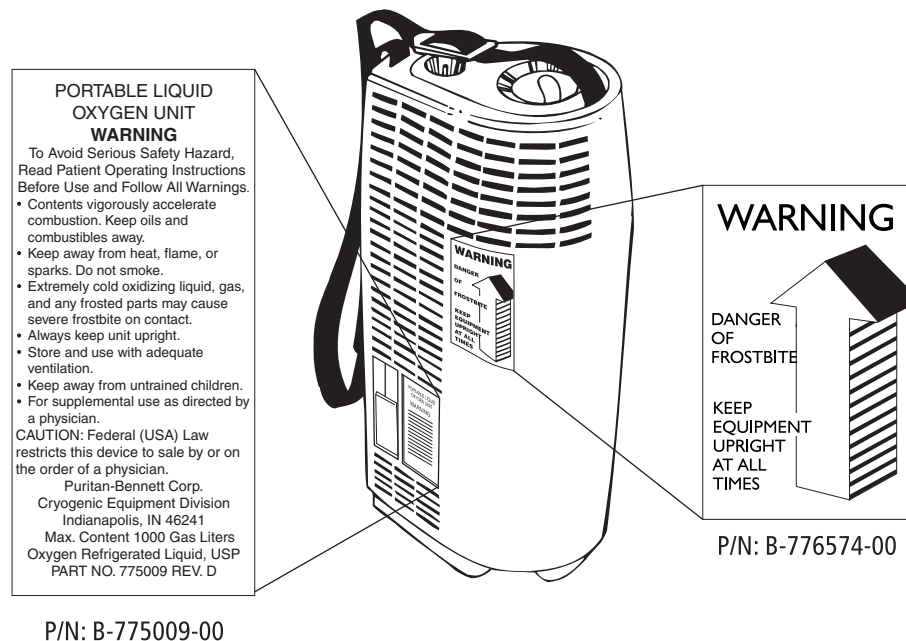

Figure 1-7: Companion 1000/T Warning Labels
2. Verify that the warning labels are present and legible on the unit (Figure 1-7).
Verify that the "Keep Upright" and the Oxygen Contents" warning labels (Figure 1-7) are present and legible.